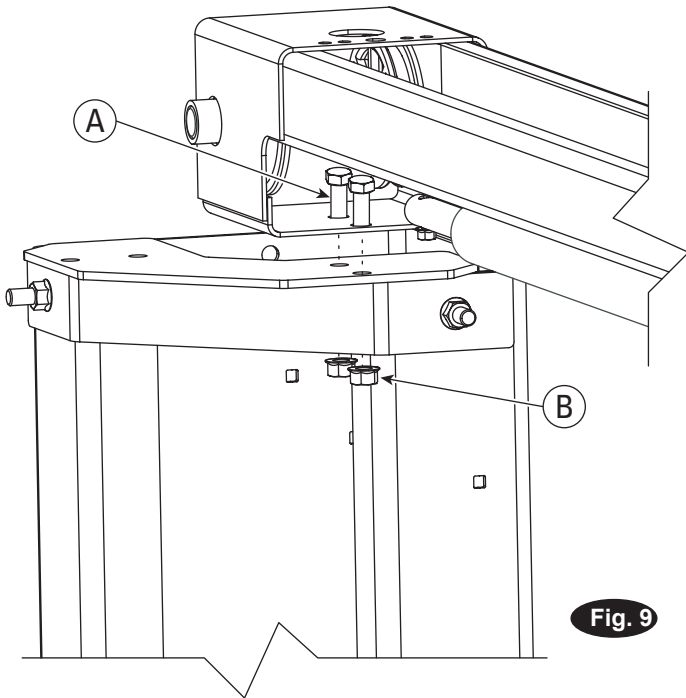

Fig. 9
With a ladder by each column, two people position the overhead assembly onto column mounting brackets and fasten with (2) M10 x 20mm HHCS and (2) M10 lock nuts, Fig. 9. Tighten bolts at center of overhead assembly.